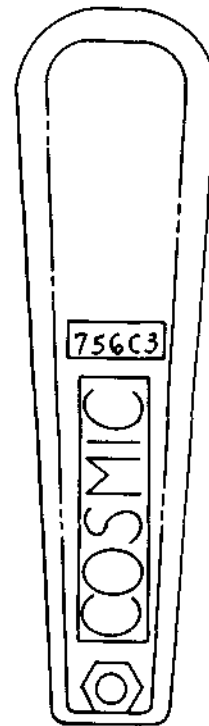

Fig. 4—756C3 Inserter Tool
2.04 756C3: The 756C3 inserter tool (Fig. 4) consists of a light gray plastic handle, an insulated blade, and associated hardware. The blade is provided with wire retention holes, a V-shaped slot on the 3-beam end, and has a black nylon coating to prevent electrical shorting during installation. The 756C3 tool is used for inserting wires into 3-beam and 4-beam terminals on 78- and 112-type connector blocks in the COSMIC^{*} I and II main distributing frames. The 756C3 tool replaces the 756C2 inserter tool.